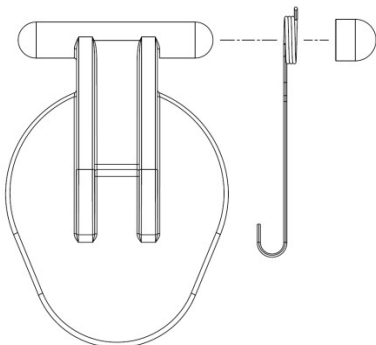

Fig. 2A: Disc, spring, and end cap (unassembled)
- 3.2.2.4 Install spring over disc shaft. The shorter leg of the spring should point away from the disc, and the hook on the longer leg of the spring should wrap around the rib on disc. (See Fig. 2A.)